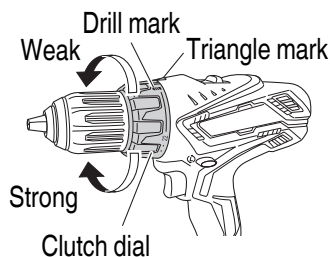

Fig. 5
1. Confirm the clutch dial position (See **Fig. 5**)
The unit indicates the tightening torque with the numbers “1, 3, 5 ... 22” on the clutch dial, and the dots. The tightening torque at position “1” is the weakest and the torque is strongest at the highest number (See Fig. 5 on page 29).